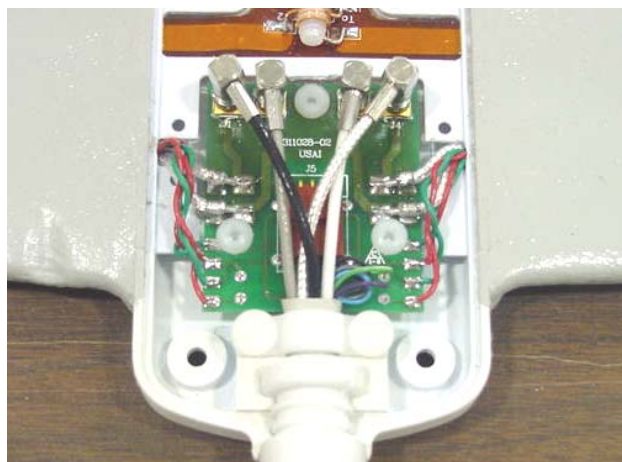

Figure 12: Anterior SMB connector assembly.
Step 5 – Fix a new cable assembly on the anterior section of the coil and reattach the cable lock with two screws. Connect all four SMB plugs and the DC Plug to the corresponding receptacles on the interface board (see *Figure 12*).